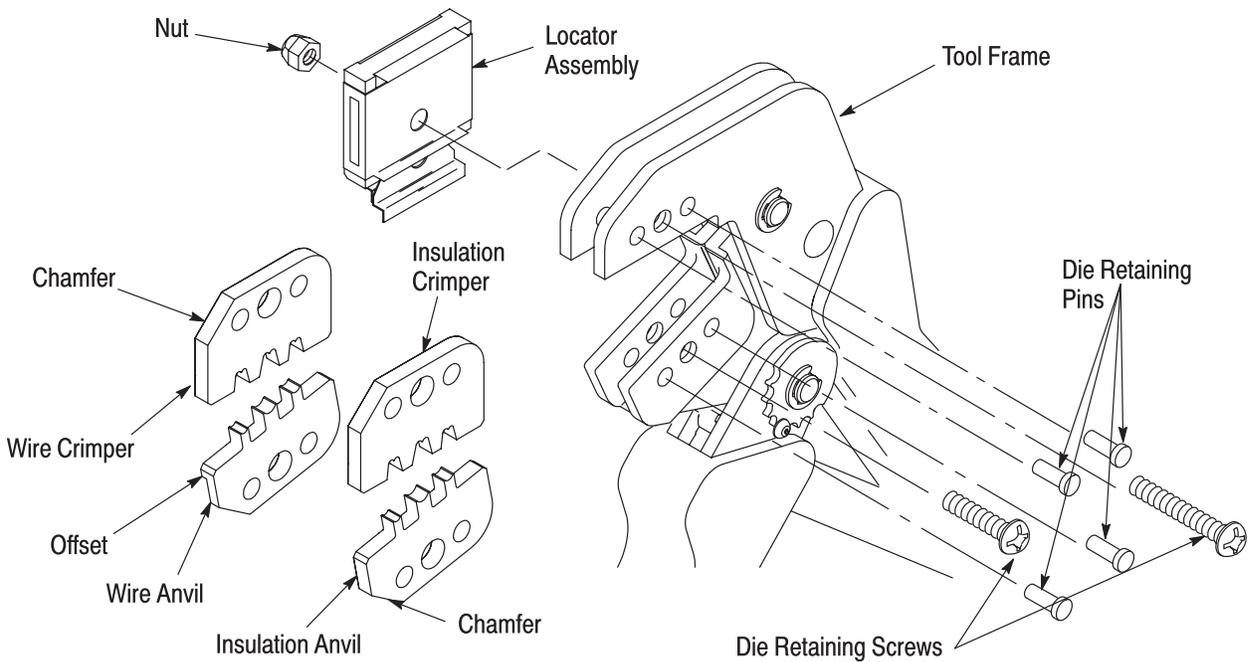

Figure 2
**3. INSTALLATION AND REMOVAL OF DIE SET AND LOCATOR ASSEMBLY** (Figure 2)